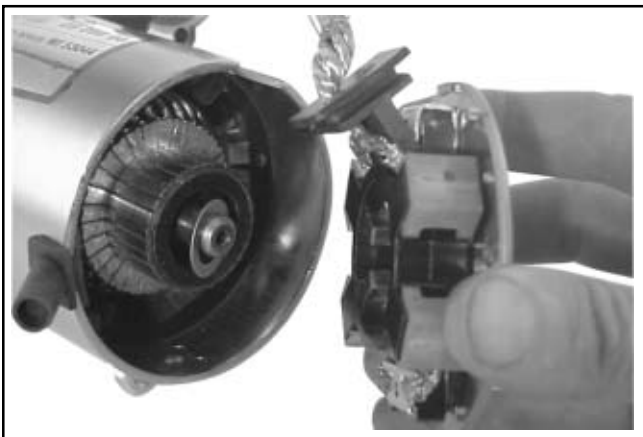

Figure 8-45. Removing Commutator End Plate Assembly.
5. Remove the commutator end plate assembly, containing the brush holder, brushes, springs, and locking caps. Remove the thrust washer from inside the commutator end. See Figure 8-45.